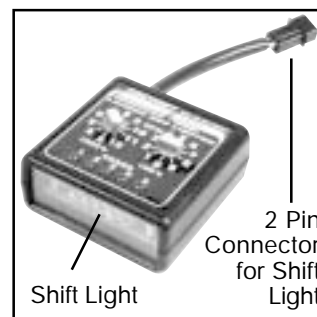

Figure 2
2. Mount the MSD pickup plate inside the housing (Figure 2). Note the "adjusting notch" on the edge of the plate. This notch must be located over the series of "steps" inside the housing (about the 7 o'clock position as you face the housing). One of the sensor units will be at approximately 12 o'clock.